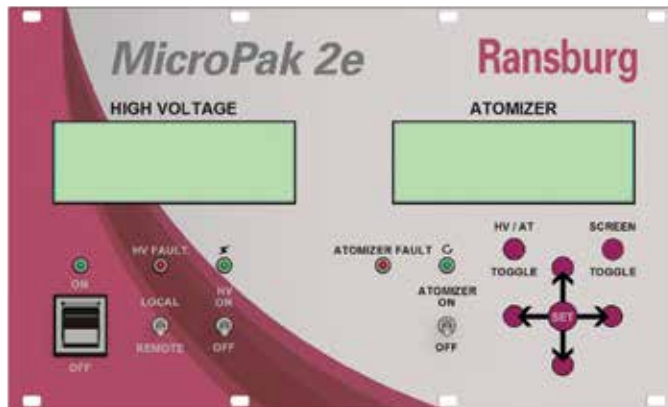

Figure 4: Operator Interface
The MicroPak 2e Controller shown in figure 4, has a physically simple operator interface consisting of five (5) LED's (Light Emitting Diodes), four (4) switches, seven (7) buttons, and two four line twenty character (4 X 20) alpha/numeric displays.
This is a return-to-center momentary toggle switch. It is active only when the Local/Remote mode switch is set to Local. It is used to enable and disable the High Voltage output and to clear system faults. When the System Checks and Current Status are OK, flipping the switch to the up position (HV On) will enable High Voltage Output (see "Figure 4 - Operator Interface" in this section). Flipping it to the down position (HV Off) will disable the High Voltage Output. If there is a system fault, flipping this switch to the OFF position (also known as the Reset position) will reset (clear) any faults currently detected by the system.
The red HV Fault LED is lit when the system detects a fault condition (see "Figure 4 - Operator Interface" in the SWITCHES section). When operating in "Local Mode", it is cleared by flipping the HV On/Off switch to the OFF (Reset) position. If the system is still in a fault condition, it will immediately be lit as the system detects the fault.